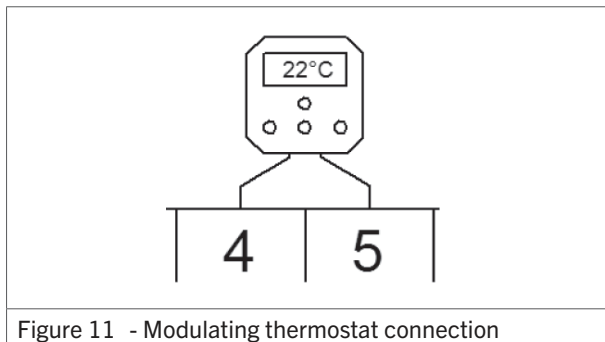

Figure 11 - Modulating thermostat connection
1. Connect the two control wires to terminals 4 and 5 (see figure 11 or the electrical wiring diagram in §11.).